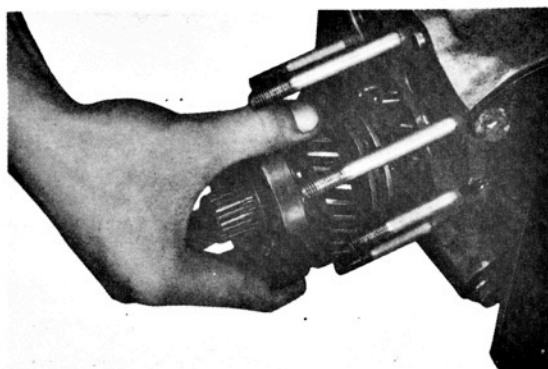

Fig. 3-13.
- 19) With a wooden hammer drive out the transfer output rear shaft toward the transfer front case by lightly tapping from the parking brake side. The output rear bearing bush and output shaft gears can be removed together with the output rear shaft as shown in the Fig. 3-13.